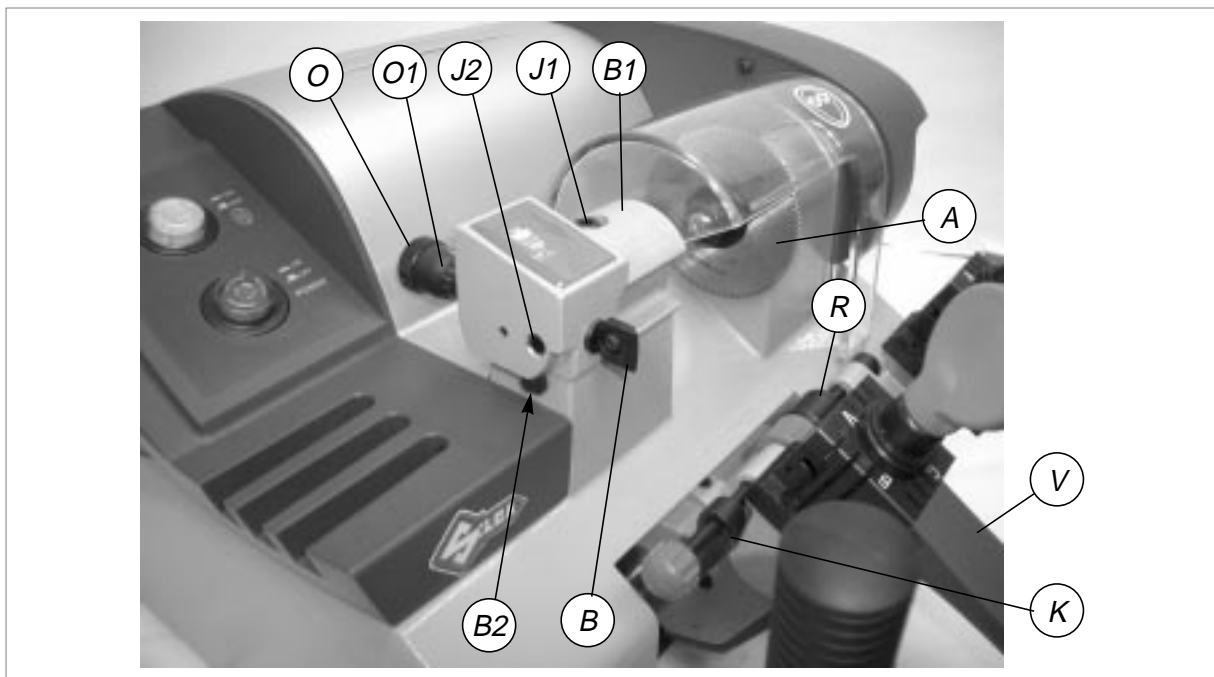

Fig. 14
- a) ensure that the keys adhere to the clamps and that the callipers (K) are in full contact with the stops.
- b) to take the callipers into contact with the keys, rotate the drum (R) towards you (away from you to return to the ideal position)
- 3) Release the carriage by lowering the knob (V) and pressing the push button (Q) right down (fig. 14, page 15).
- a) loosen the screw locking the tracer point (J2) (fig. 14, page 15).
- b) turn the knob (O) clockwise to move the tracer point forwards.
- c) turn the knob (O) anticlockwise to move the tracer point backwards (each mark on the graduated drum equals a variation of 0.002").
- a) with one hand hold still the knurled part of the knob (O).
- 1) Turn off the master switch (C) to operate safely and prevent activation of the cutting tool.
- 2) Place the adjusting key in the clamps (fig.14) with the notch facing the cutting tool and tracer point and proceed as follows:
- a) ensure that the keys adhere to the clamp and that the callipers (K) are in full contact with the stops.
- b) to take the callipers into contact with the keys, rotate the drum (R) towards you (away from you to return to the idle position).
- 3) Release the carriage by lowering the knob (V) and pressing the push button (Q) right down (fig.14).
- 4) Move the adjusting key so that the notch comes into contact with the cutting tool (A) and tracer point (B).
- a) loosen the screw (J1) to move the tracer point (fig.14).
- 8) Lower the carriage by means of the handle (V) (it will engage automatically).